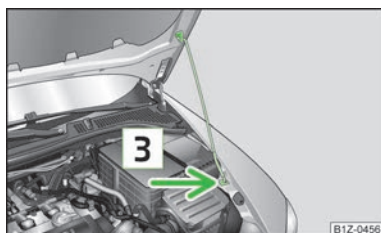

Fig. 132
- Take the bonnet support out of its holder and secure the opened bonnet by inserting the end of the support in the opening » Fig. 132 designed for it.